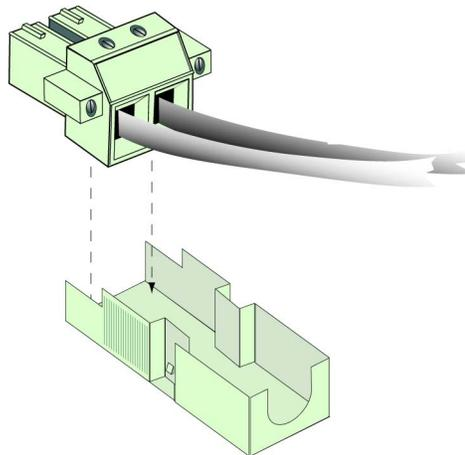

Figure 2-6. Cabled DC Power Connector and Bottom Section of Shell
- a** Seat the DC power connector (the plug) into the bottom half of the shell. The connector will seat into the shell in only one way, as shown in Figure 2-6.